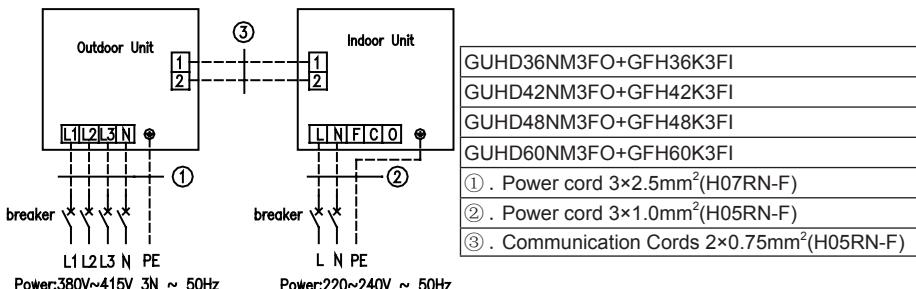

Fig.42
| ⑦ . Connect the indoor unit connection cord properly based on the corresponding marks as shown in Fig.42. |